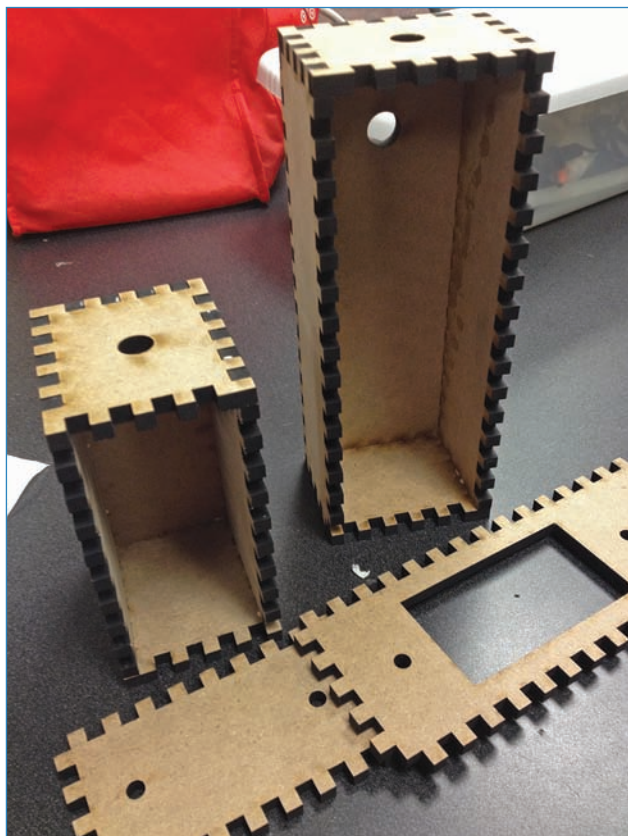

FIGURE 2.18 The enclosures are assembled and await painting and electronics!
5. So, you have your finished enclosures; they should look like the ones shown in Figure 2.18. You might want to paint them at this point.